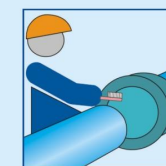

图1
3.Using a wire brush and a clean rag, carefully clean the inside of the socket particularly the gasket recesses. In particular, remove any deposits of earth, sand, etc. also clean the spigot of the pipe to be jointed and the gasket itself, get smooth edge. (See figure 1)